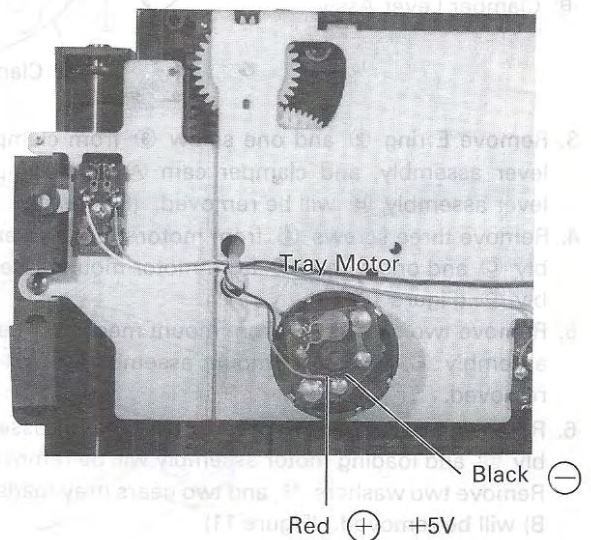

Figure 9
1. Apply external $\pm 5V$ voltage to tray motor, and the tray panel will be opened. (Figure 9)